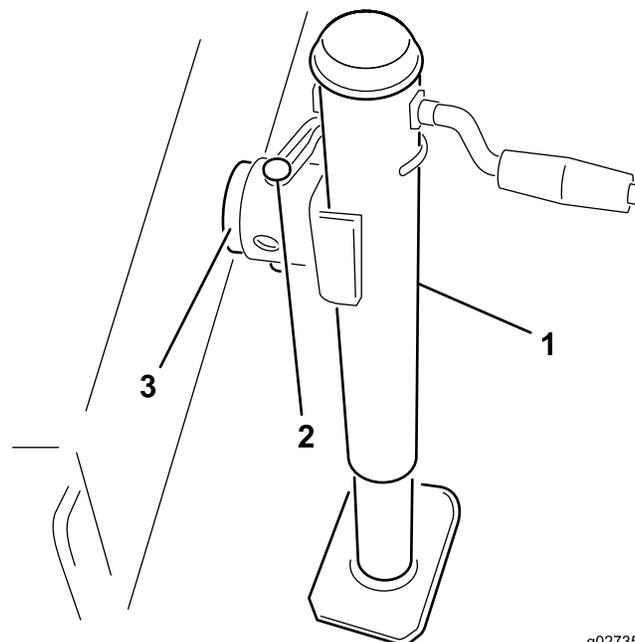

Figure 7
2. Insert the jack onto the frame pin and secure it with the pin (Figure 7).